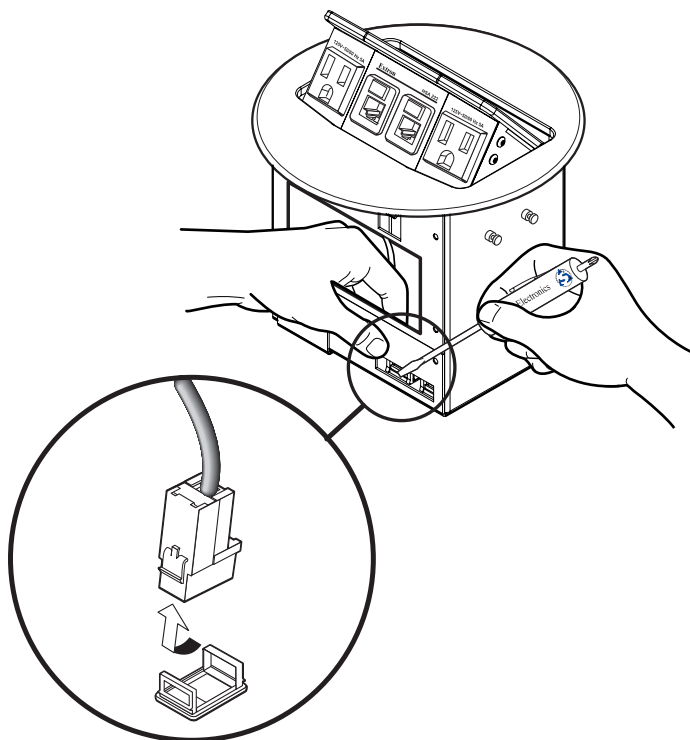

Figure 21. Releasing the Bezel Plug-in Detent (HSA 222 Models)
- a. With a Tweezer in one hand, reach through the small access hole in the front of the enclosure (see **figure 21** on the next page) and gently pry outward on the front of the RJ-45 connector detent on the bezel plug-in,